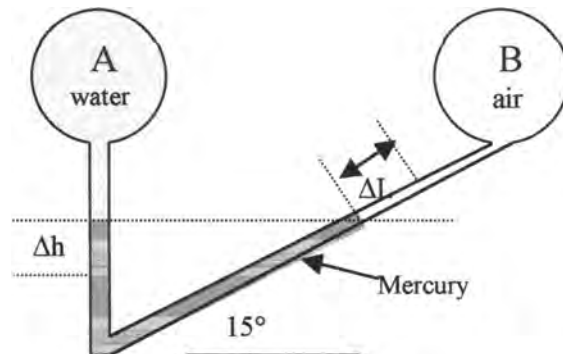

Fig. P2.40
**2.40** In Fig. P2.40 the pressures at A and B are the same, 100 kPa. If water is introduced at A to increase  $p_A$  to 130 kPa, find and sketch the new positions of the mercury menisci. The connecting tube is a uniform 1-cm in diameter. Assume no change in the liquid densities.